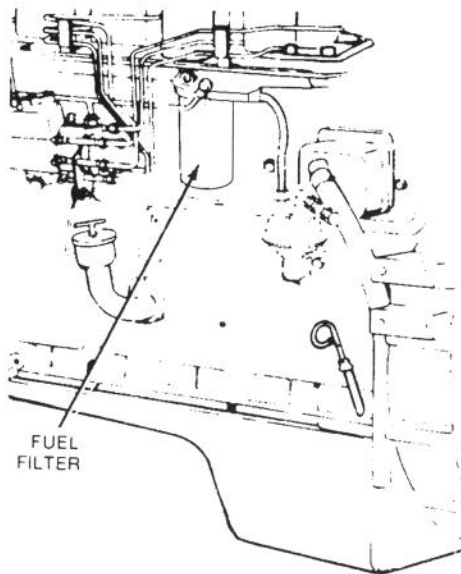

FIGURE 3-11. FUEL FILTER
1. Remove fuel filter (Figure 3-11) and fill with clean fuel.